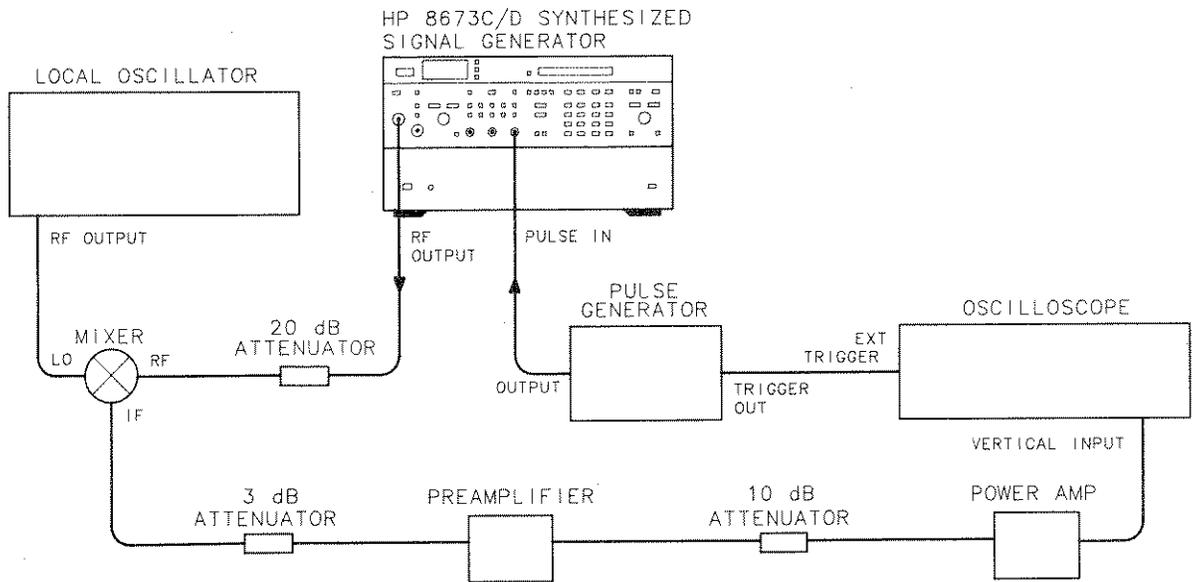

Figure 4-30. Pulse Peak Level Accuracy Test Setup
1. Connect the equipment as shown in Figure 4-30.